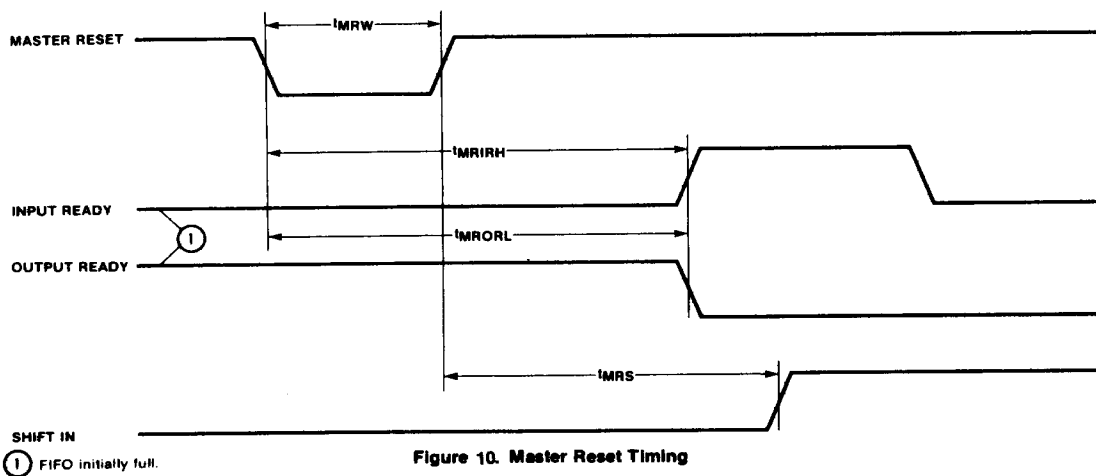

Figure 10. Master Reset Timing
After power up the Master Reset is pulsed low (Fig. 10) to prepare the FIFO to accept data in the first location. When Input Ready (IR) is HIGH the location is ready to accept data from the D_x inputs. Data then present at the data inputs is entered into the first location when the Shift In (SI) is brought HIGH. A SI HIGH signal causes the IR to go LOW. Data remains at the first location until SI is brought LOW. When SI is brought LOW and the FIFO is not full, IR will go HIGH, indicating that more room is available. Simultaneously, data will propagate to the second location and continue shifting until it reaches the output stage or a full location. The first word is present at the outputs before a shift out is applied. If the memory is full, IR will remain LOW.